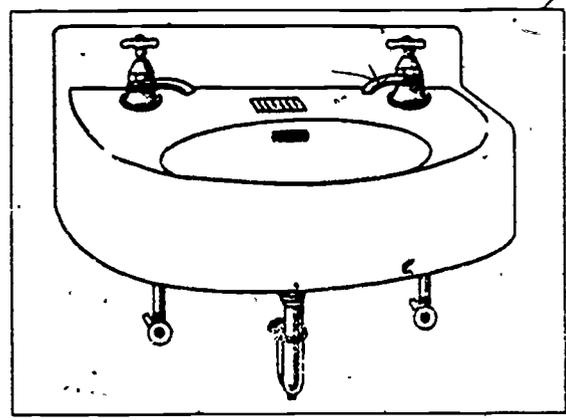

Figure 2-10. Wall-hung lavatory.
**Types of lavatories.** There are many types of lavatories, but the wall-hung and pedestal types are most commonly used. A wall-hung lavatory is illustrated in figure 2-10. Lavatory bowls may be circular, square, or oval shaped. They are usually made of vitreous china but may also be made of cast iron, sheet iron, or stainless steel. Enamelled cast iron is probably the most common material used, because it